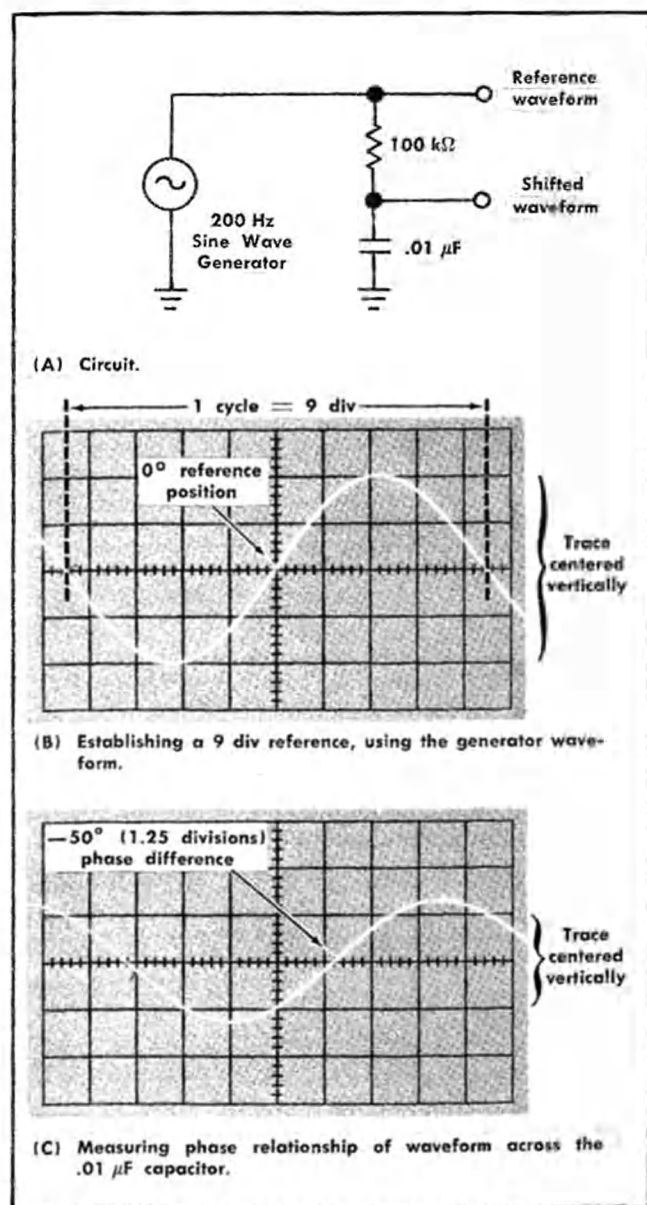

Fig. 2-14. Measuring phase relationships.
External triggering is extremely useful in measuring phase difference between signals. The circuit in Fig. 2-14(A) is used to demonstrate this feature.
controls so that one cycle of the reference signal covers 9 divisions of horizontal trace, passing through  $0^\circ$  at the intersection of the graticule center lines as in Fig. 2-14(B). This causes each division of horizontal base line to display  $40^\circ$  of the waveform being applied.
Disconnect the reference waveform from the vertical input. Connect the shifted waveform to the vertical input connector and measure the amount of separation between the graticule center line and the waveform  $0^\circ$  point as in Fig. 2-14(C). Convert the amount of separation to degrees, using the  $40^\circ/\text{div}$  value which was established previously. If the  $0^\circ$  point has moved to the left, the waveform leads the reference. If it has moved to the right, the waveform lags the reference.